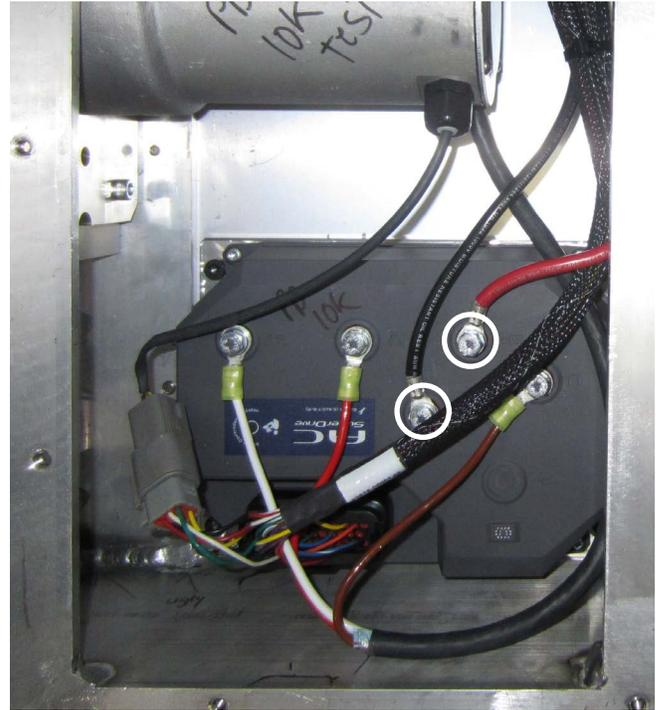

Figure 154: Motor Power Harness to Motor Controller
6. Using a 10 mm socket wrench, disconnect the power leads from the Motor Controller. See Figure 154.